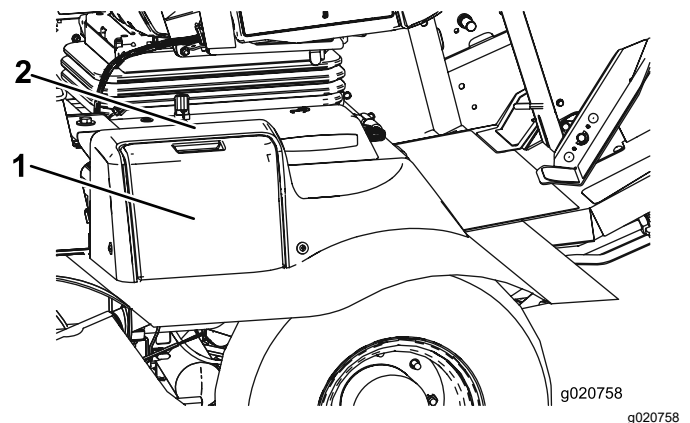

Figure 58
1. Open the battery cover on the side of the shroud (Figure 58).
Note: Press down on the flat surface above the battery cover to ease the removal of the cover (Figure 58).